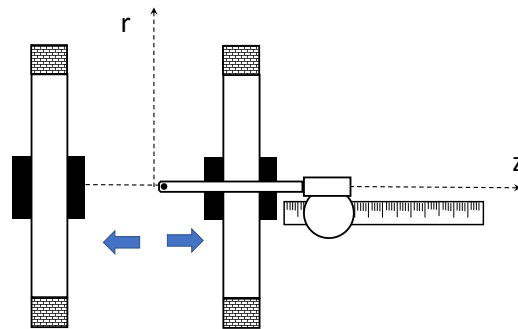

Figure 6: Measuring B_z along the axis of the Helmholtz arrangement
- Align the tip of the teslameter in such a way that it can be moved along the z- axis of the system (see figure 6). In this configuration the probe measures the B_z component.